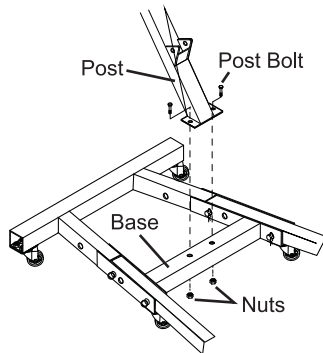

Figure 6
6. Use the Post Bolts (6) and Nuts (3) to secure the bottom of the Post to the Base. See Figure 6.